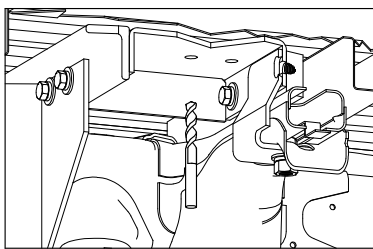

FIGURE H1: Cutaway view from under the bed.
1. **Drill the holes.** To install the safety chain brackets, it is necessary to drill four 1/2" holes through the truck bed floor. Drill the holes so that they match up with the two sets of holes on each side of the center, see Figure H1. This may be done by drilling the 1/2" holes from the bottom using the center as a guide, or by drilling a smaller pilot hole from the bottom and drilling the 1/2" holes from the top side of the bed.